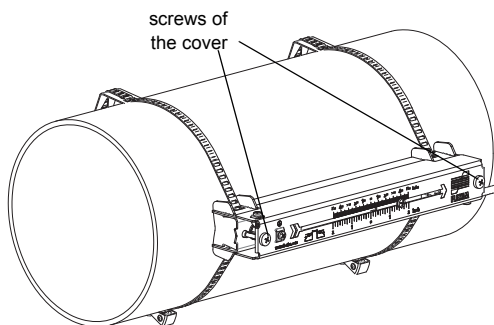

Fig. 7.22: Transducers with Variofix L on the pipe
- Tighten the screws of the cover (see Fig. 7.22).